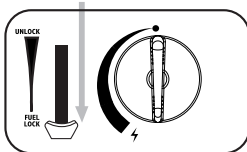
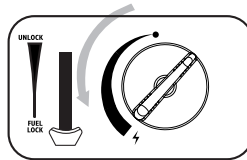

fig. 3
fig. 4
3. Press the cartridge lever (6) down (fig.3) and close the cartridge cover.
4. If you hear a "hissing" noise, the cartridge has not been correctly fitted. Do not attempt to ignite the appliance but move lever (6) to the "Unlock" position and repeat step (1-4).
5. Turn the knob (8) fully to the ignition position until it clicks. (fig.4) Repeat this action until burner ignites.